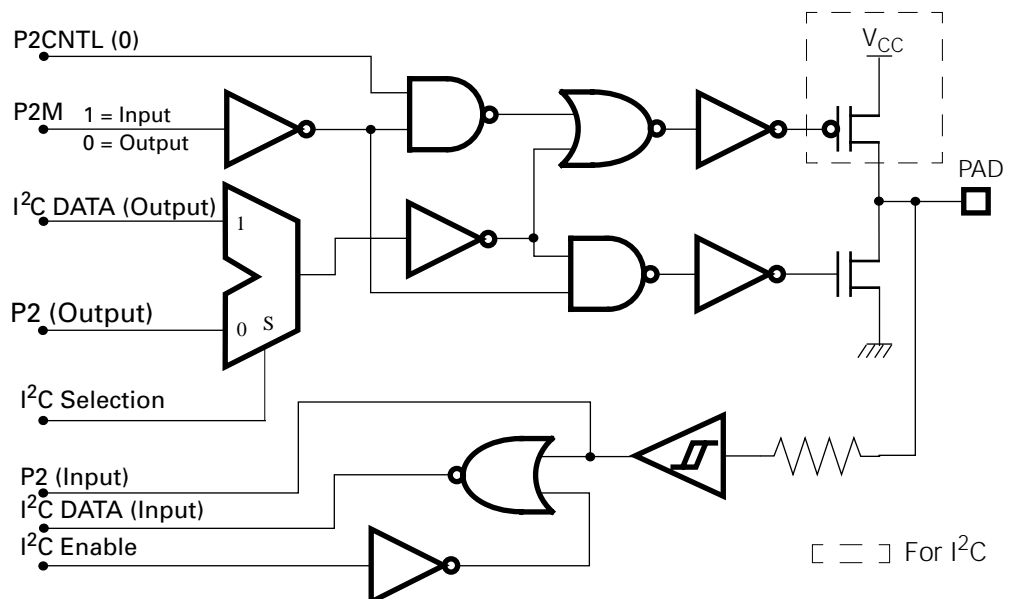

Figure 16 Bidirectional Port Pin Pad Multiplexed with I2C Port
The I²C module is enabled by setting bit (2) in the I2C_CNTL register to 1 (see Figure 16). This bit blocks out I²C logic if it is set to 0. To prevent switching the I²C bus during activation, bits (7,6) of the Port 2 Data Register for I²C selection 1 (bits (5,4) of Port 2 Data Register for I²C selection 0) should be set to 1 before the I²C module is enabled.